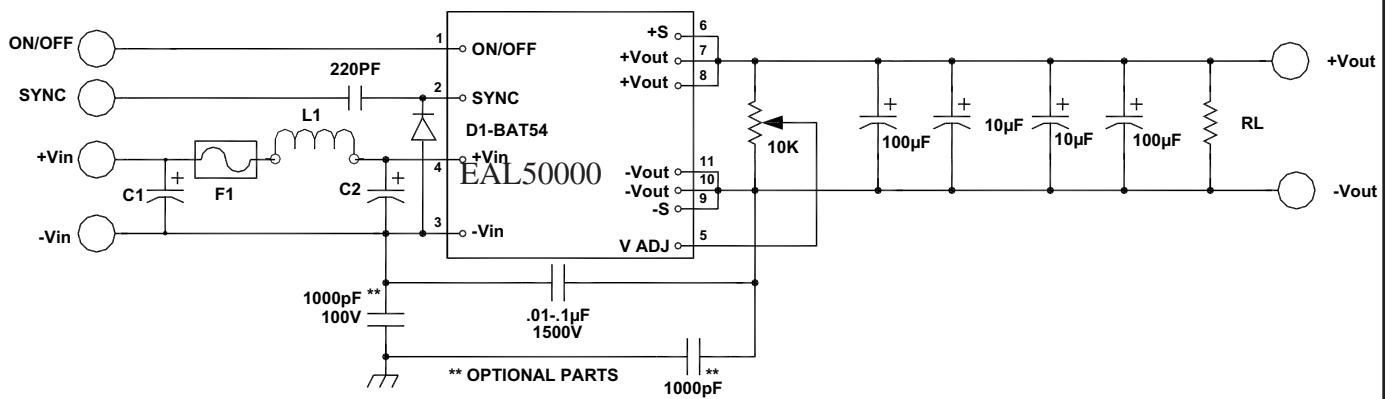

FIGURE 3. Typical connection diagram of EAL50000.
5. Output ripple is measured with two tantalum 220uF@10V and 10uF@25V ceramics in parallel on the output as shown in Figure 3.